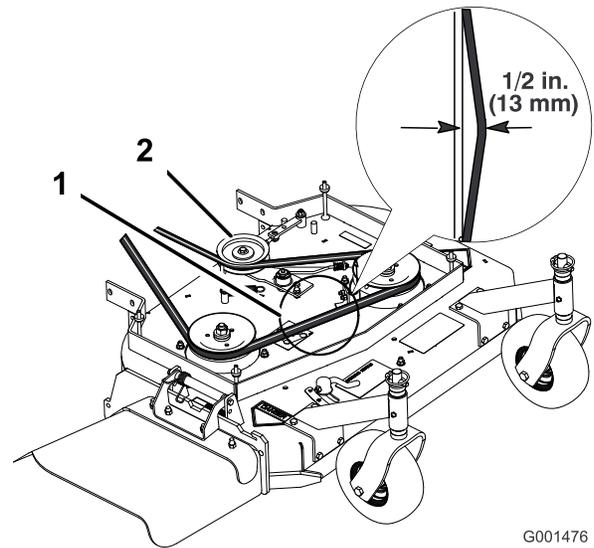
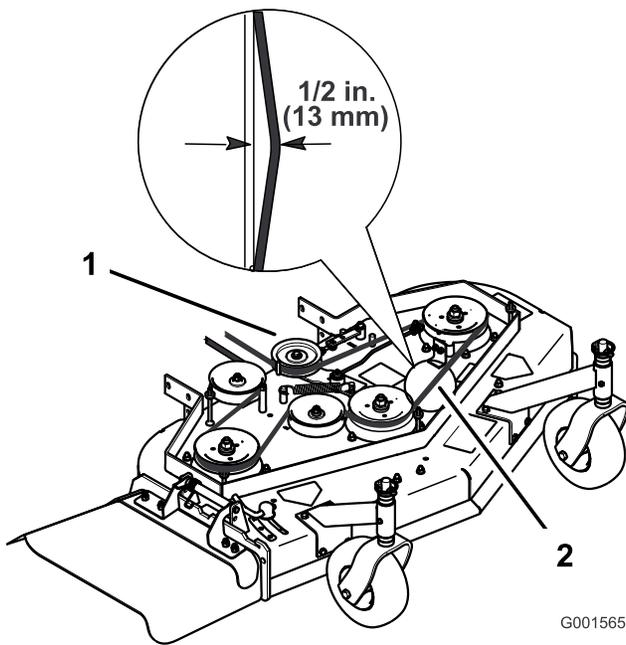

Figure 45
Figure 46
Note: The proper mower belt tension is 44-67 N-m (10-15 ft-lb) with the belt deflected 13 mm (1/2 inch) halfway between the pulleys (Figure 45 or Figure 46).
3. Loosen the locknut on the turnbuckle (Figure 45).
4. Rotate the turnbuckle toward the rear of the mower to increase the tension on the belt. Rotate the turnbuckle toward the front of the mower to decrease the tension on the belt (Figure 45).
Note: The proper mower belt tension is 44-67 N-m (10-15 ft-lb) with the belt deflected 13 mm (1/2 inch) halfway between the pulleys (Figure 45).
Note: The proper mower belt tension is 44-67 N-m (10-15 ft-lb) with the belt deflected 13 mm (1/2 inch) halfway between the pulleys (Figure 46).